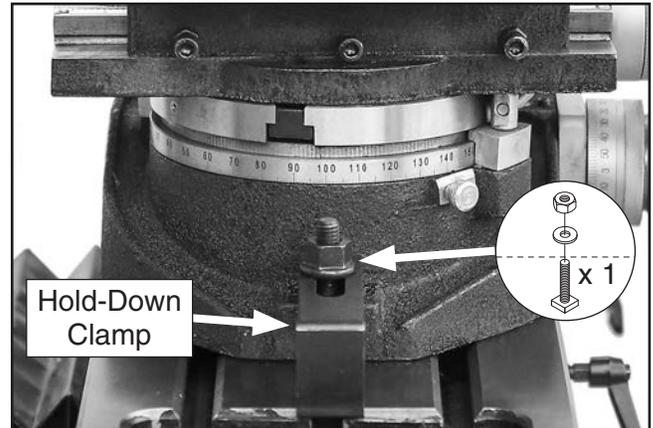

Figure 12. T1243 mounted with hold-down clamp.
Note: The T1243 may also be installed using (1) T-bolt, (1) flat washer, (1) hex nut, and (1) hold-down clamp, as shown in **Figure 12**.